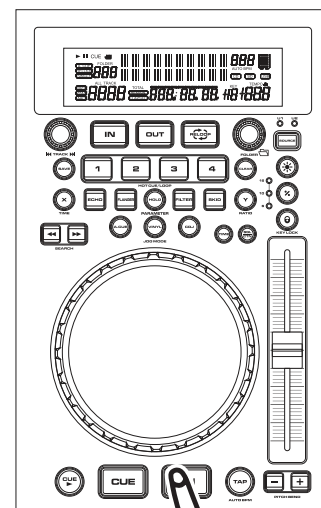
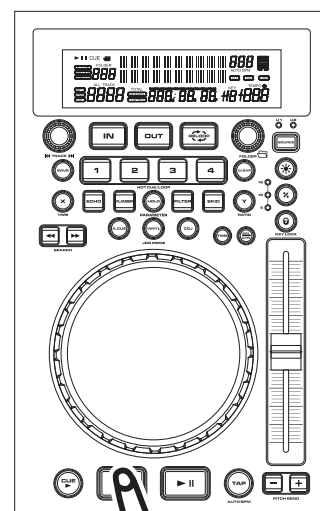

Figure 10
Figure 11
### 3. STARTING PLAYBACK - *Figure 10*
### 4. PAUSING - *Figure 10*
### 6. STOPPING PLAYBACK - *Figures 10 & 11*
This feature allows you to scroll through a track frame by frame, allowing you to find and set a starting cue or loop point. To use the scroll function you must first be in Pause Mode (see section 4) or Cue Mode (see section 8). Once you are in Pause or Cue mode, turn the *JOG WHEEL (16)* to scroll through the track (Figure 12). Turning the wheel in a clockwise direction will advance the frame search and turning the wheel in a counter-clockwise direction rewinds the frame search. When you use the *JOG WHEEL (16)* the monitor (headphone level) function allows you to hear what you are scrolling through. Once you reach your desired starting point you can set a cue (starting) point by pressing the *PLAY/PAUSE BUTTON (11)* as in Figure 10. Pressing the *CUE BUTTON (14)* as in Figure 11 will now return you to the point you just set.